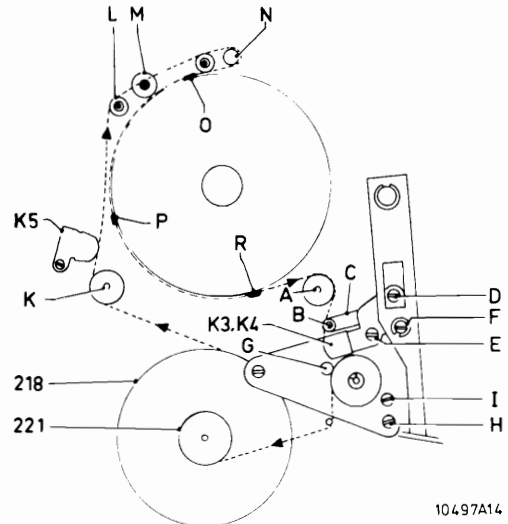

Fig. III-19
2.3.19. Adjusting the audio/sync head (see Fig. III-19)